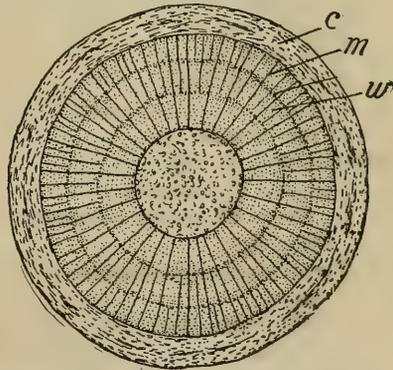

Fig. 61, Cross section of a twig three years old. (Andrew's Botany.)
- e. Study Fig. 61—shows stem three years old.